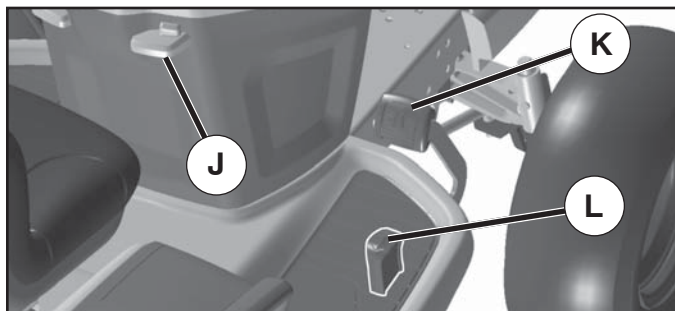

FIG. 7
(See Fig. 7)
## TO USE CRUISE CONTROL (J) (See Fig. 7)